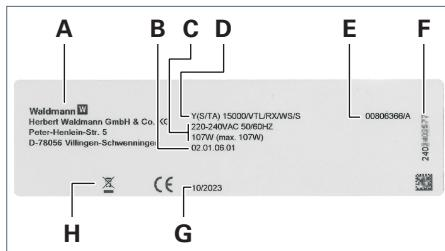

Fig. 36: Rating plate luminaire head (example).
- Existing luminaire head, as of serial number 2402389763, see Fig. 36.